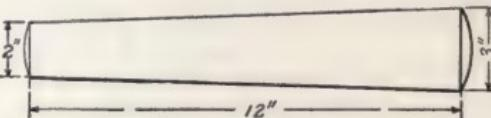

FIG. 38.
**85. Taper of Keys.**—In keys, cotters, and stake wedges, it is customary to express the inclinations as a certain amount per foot, or taper per foot. Thus, in Fig. 38, the inclination would be  $3 - 2$   $= 1$  inch in 12 inches,